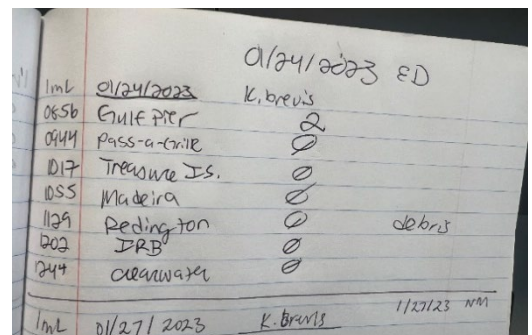

Figure 2. Sample notebook setup.
- Rinse the pipette with deionized (DI) water at least one time between samples. Dispose of this rinse water in the waste jug.
- While the samples are settling, set up the notebook (Fig. 2).